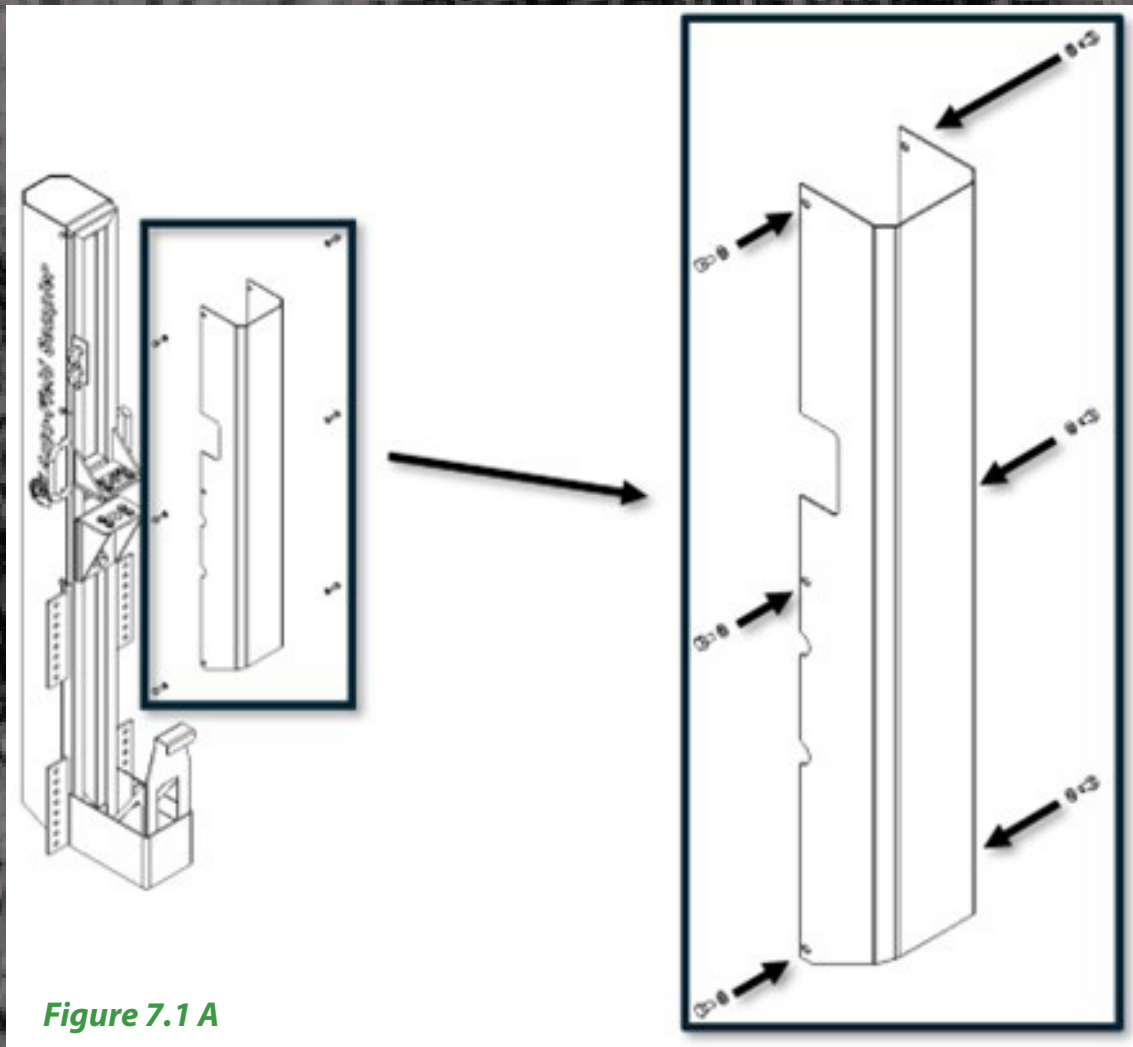

Figure 7.1 A
- Remove the six bolts securing the **Mast** cowling on the soil probe side. See **Figure 7.1 A**.